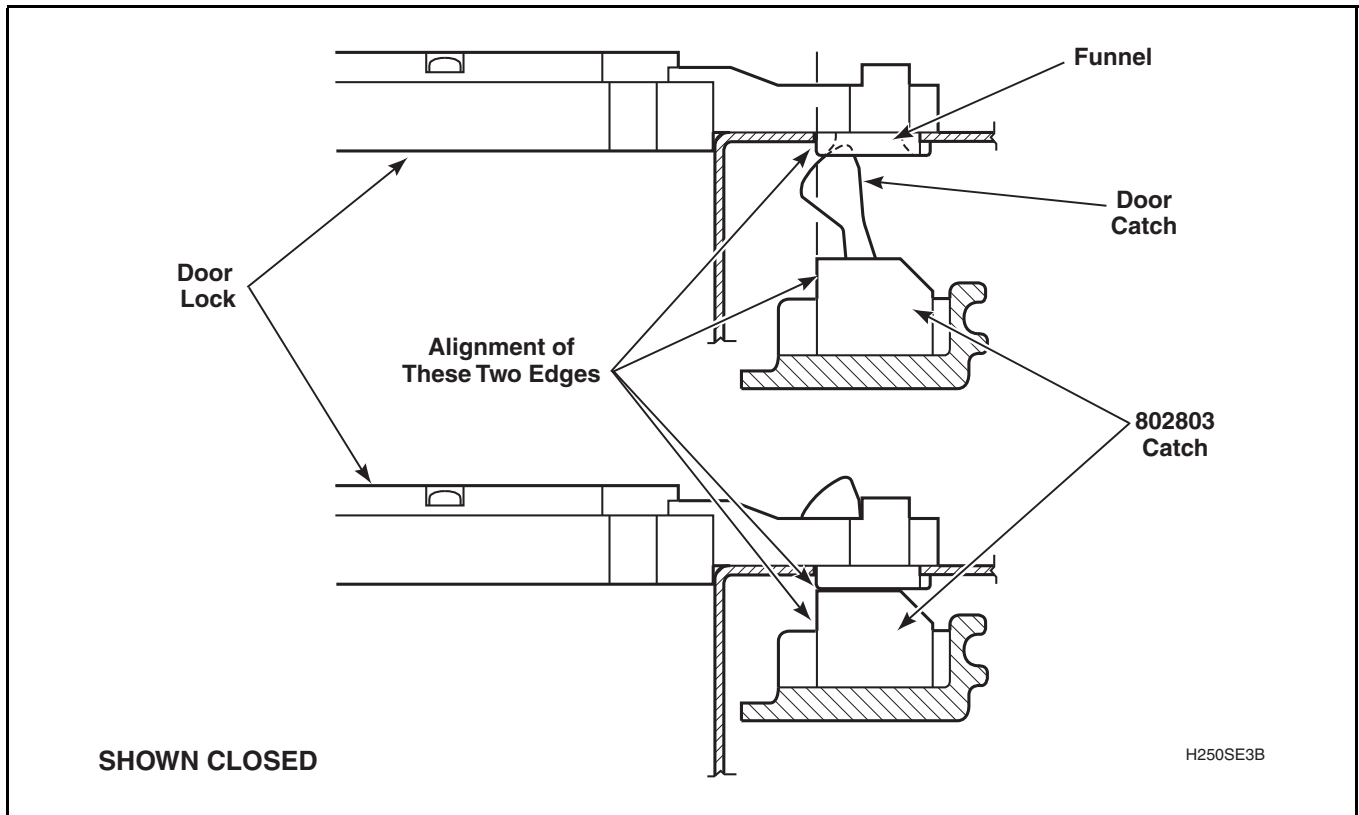

Figure 7
- f. Adjust door catch so the outside edge is aligned with the edge of the lock. Refer to *Figure 7*.
- g. Visually check that the door catch properly engages the funnel of the door latch/switch assembly. Refer to *Figure 7*.